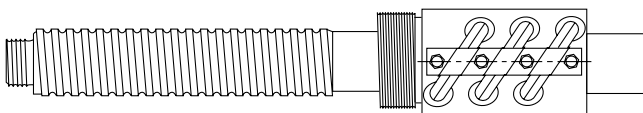

Figure 7
1. Remove any ball nut retainer from the arbor. Hold the arbor firmly end to end with the screw. Make certain the arbor end is centered on the screw shaft end. (See Figure 7.)